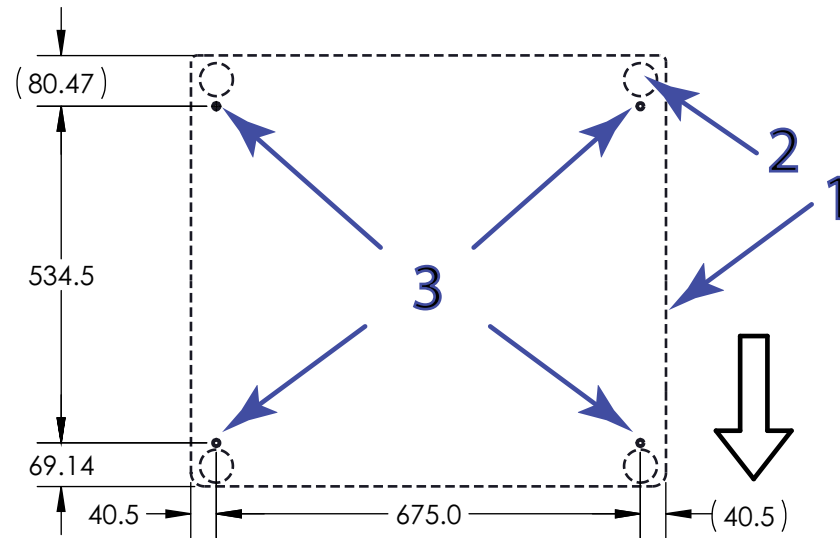

Figure 15. Location of anchoring points on standard width frame (view from above)
Legend for Figure 15 and Figure 16
1. Refer to Figure 15 on page 71 (or Figure 16 on page 72 for extra width frames) and drill holes in the table at the appropriate locations to align with the anchoring points on the frame base. 15 mm (0.59 in) diameter holes are recommended.